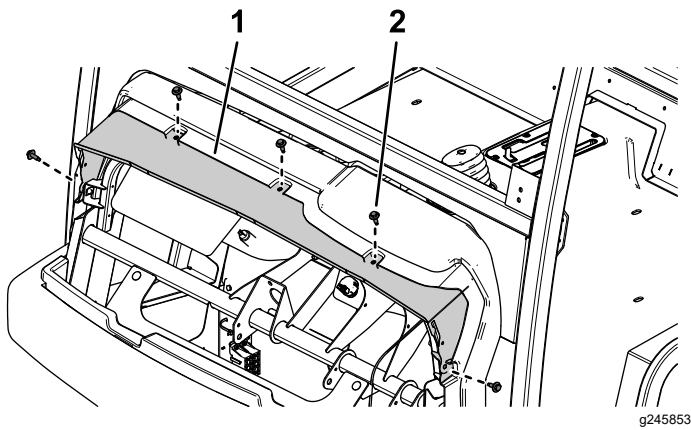

Figure 40
2. Slide the water gutter between the machine dash and sub-frame and secure the water gutter using the previously removed 5 hex-washer head bolts (Figure 40).